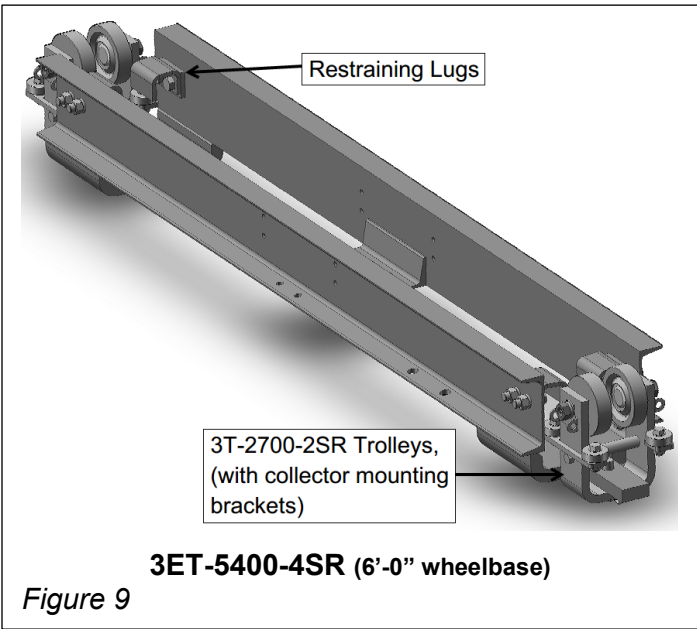

Figure 9
- 3ET-5400-4SR** 6'-0" wheelbase Figure 9